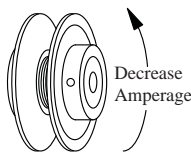

Fig. 7
- **Pulley adjustment.** With an ammeter, check the motor amperage. Adjust the pulley until the amperage draw on the motor is just below that specified on the motor nameplate. To adjust the pulley, loosen the adjustment set screw and rotate the sheave. Tighten the set screw so that it is over a flat area, otherwise thread damage will occur. To increase amperage draw, increase pulley diameter. To decrease amperage draw, decrease pulley diameter (see Fig. 7). Recheck belt alignment.